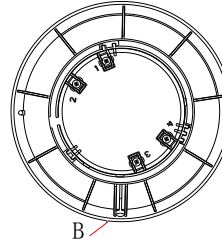
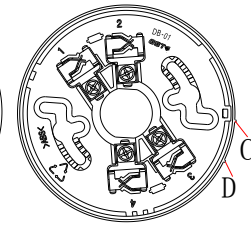

Fig. 3 Sounder Base
Fig. 4 DB-01 Base
- 3 Secure the sounder base to detector base (Fig. 4) with 2 tapping screws, and wire them properly. Align the orientation mark B on the sounder base to mark C of the base, and rotate the sounder base clockwise to D. Refer to Fig. 3 and 4.